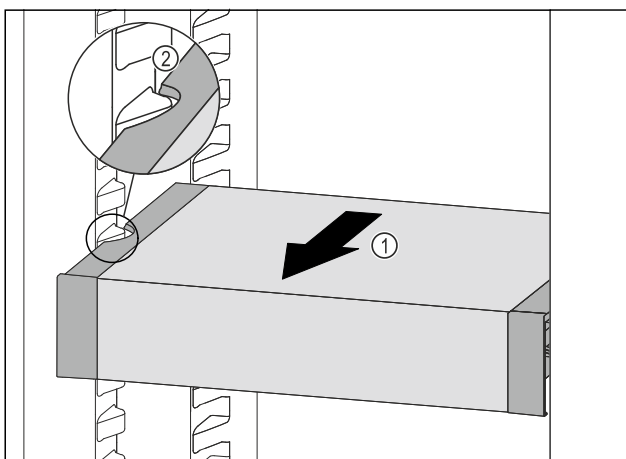

Fig. 102
- ▶ Pull VarioSafe forwards Fig. 102 (1) until the recesses in the side of the VarioSafe are at the level of the support rib in the fridge section. Fig. 102 (2)